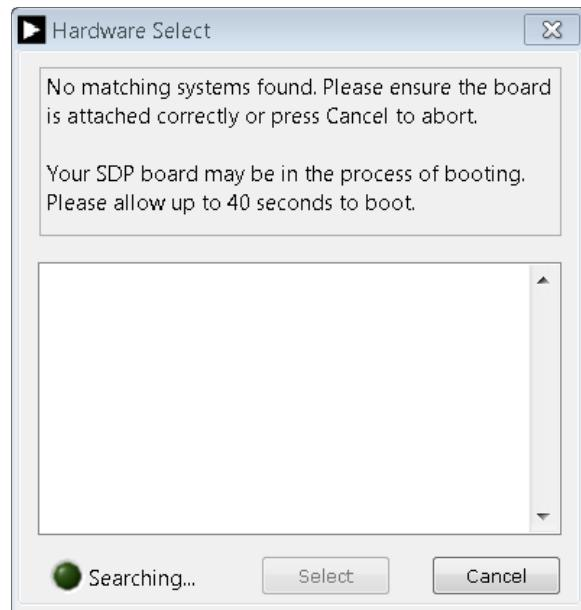
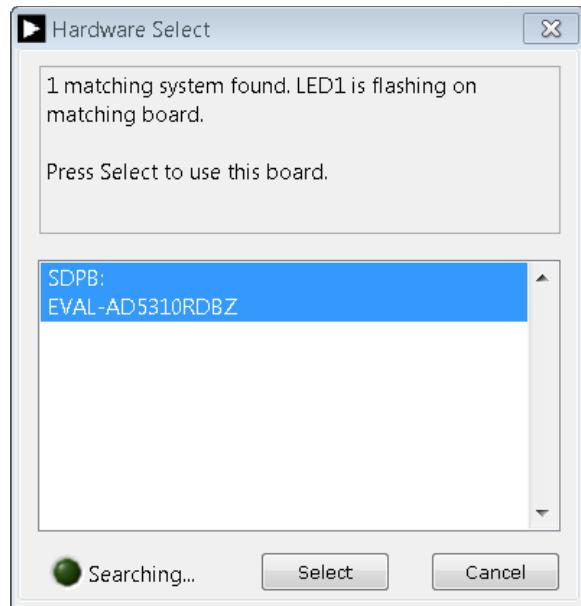

Figure 2. Connectivity Error
Figure 3. Hardware Select window
4. If the SDP-B or SDP-S board is not connected to the USB port when the software is launched, a connectivity error displays (see Figure 2). Connect the evaluation board to the USB port of the PC and wait a few seconds. When the SDP-B or SDP-S board is detected, the display is updated (see Figure 3).